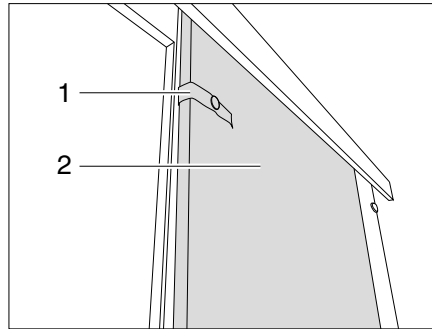

Fig. 236 Sliding door
- Release the securing strap (Fig. 236,1).
- Pull the sliding door (Fig. 236,2) into the closing position.
- Push the sliding door (Fig. 236,2) into the open position.
- Secure the sliding door with the securing strap (Fig. 236,1).